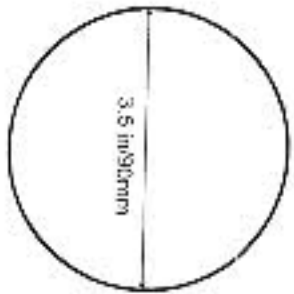

Figure 1. Drill location
2. Locate a position to drill a hole with the dimensions as shown in Fig. 1
3. Insert the unit into the hole from inside the tub (Note: It is recommended that the air hoses should be pulled together in the top position while inserting the pump. This makes the pump insertion into the hole easier. Please refer to Fig. 1 below.)